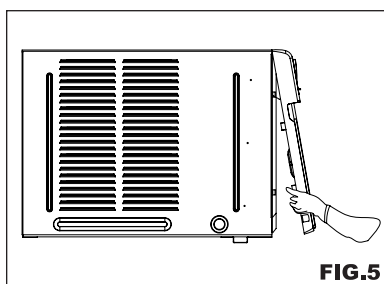

FIG.5
- Pry away front from cabinet sides as per hole (See FIG.5).